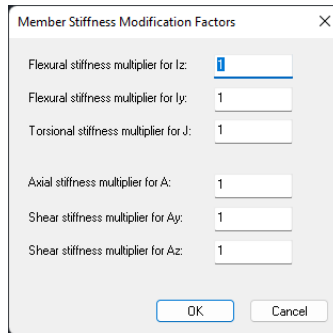

Figure 4.53
Geometry | Member Stiffness Modification prompts you with the following dialog (Figure 4.53). It allows you to modify the stiffness for selected members. This is similar to modifying the section properties for corresponding members. It is important to point out that stiffness modification for axial area (A) does not apply to self weight.